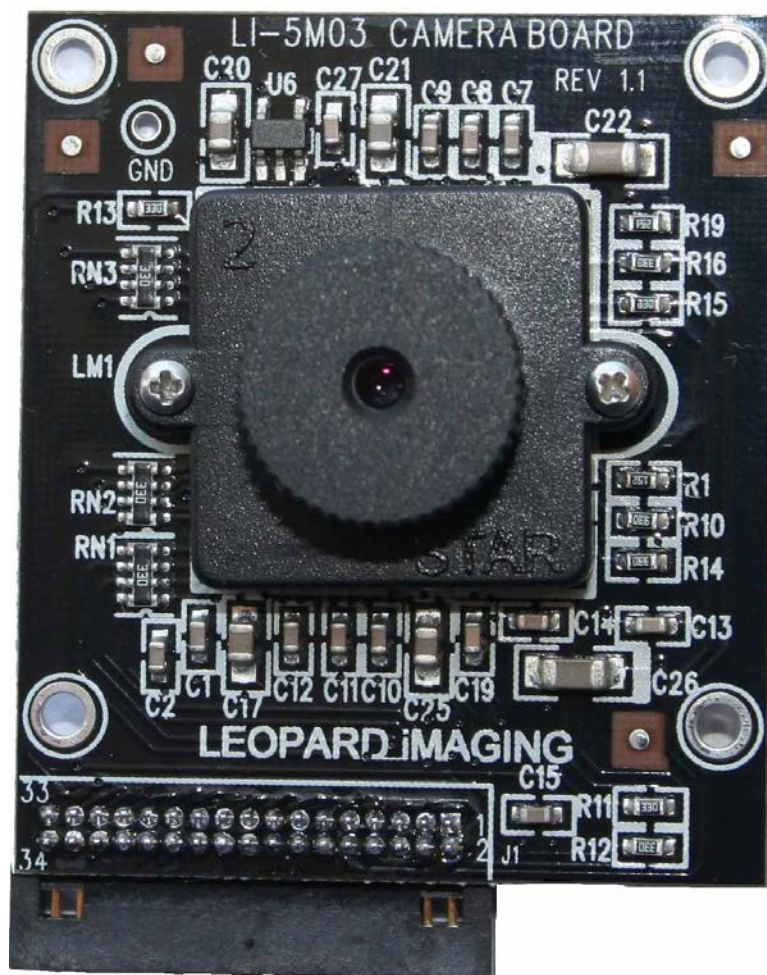

Figure 12. LI-5M03
**1.2.5.6 5 Mega-pixel Camera Board, see Figure 12**